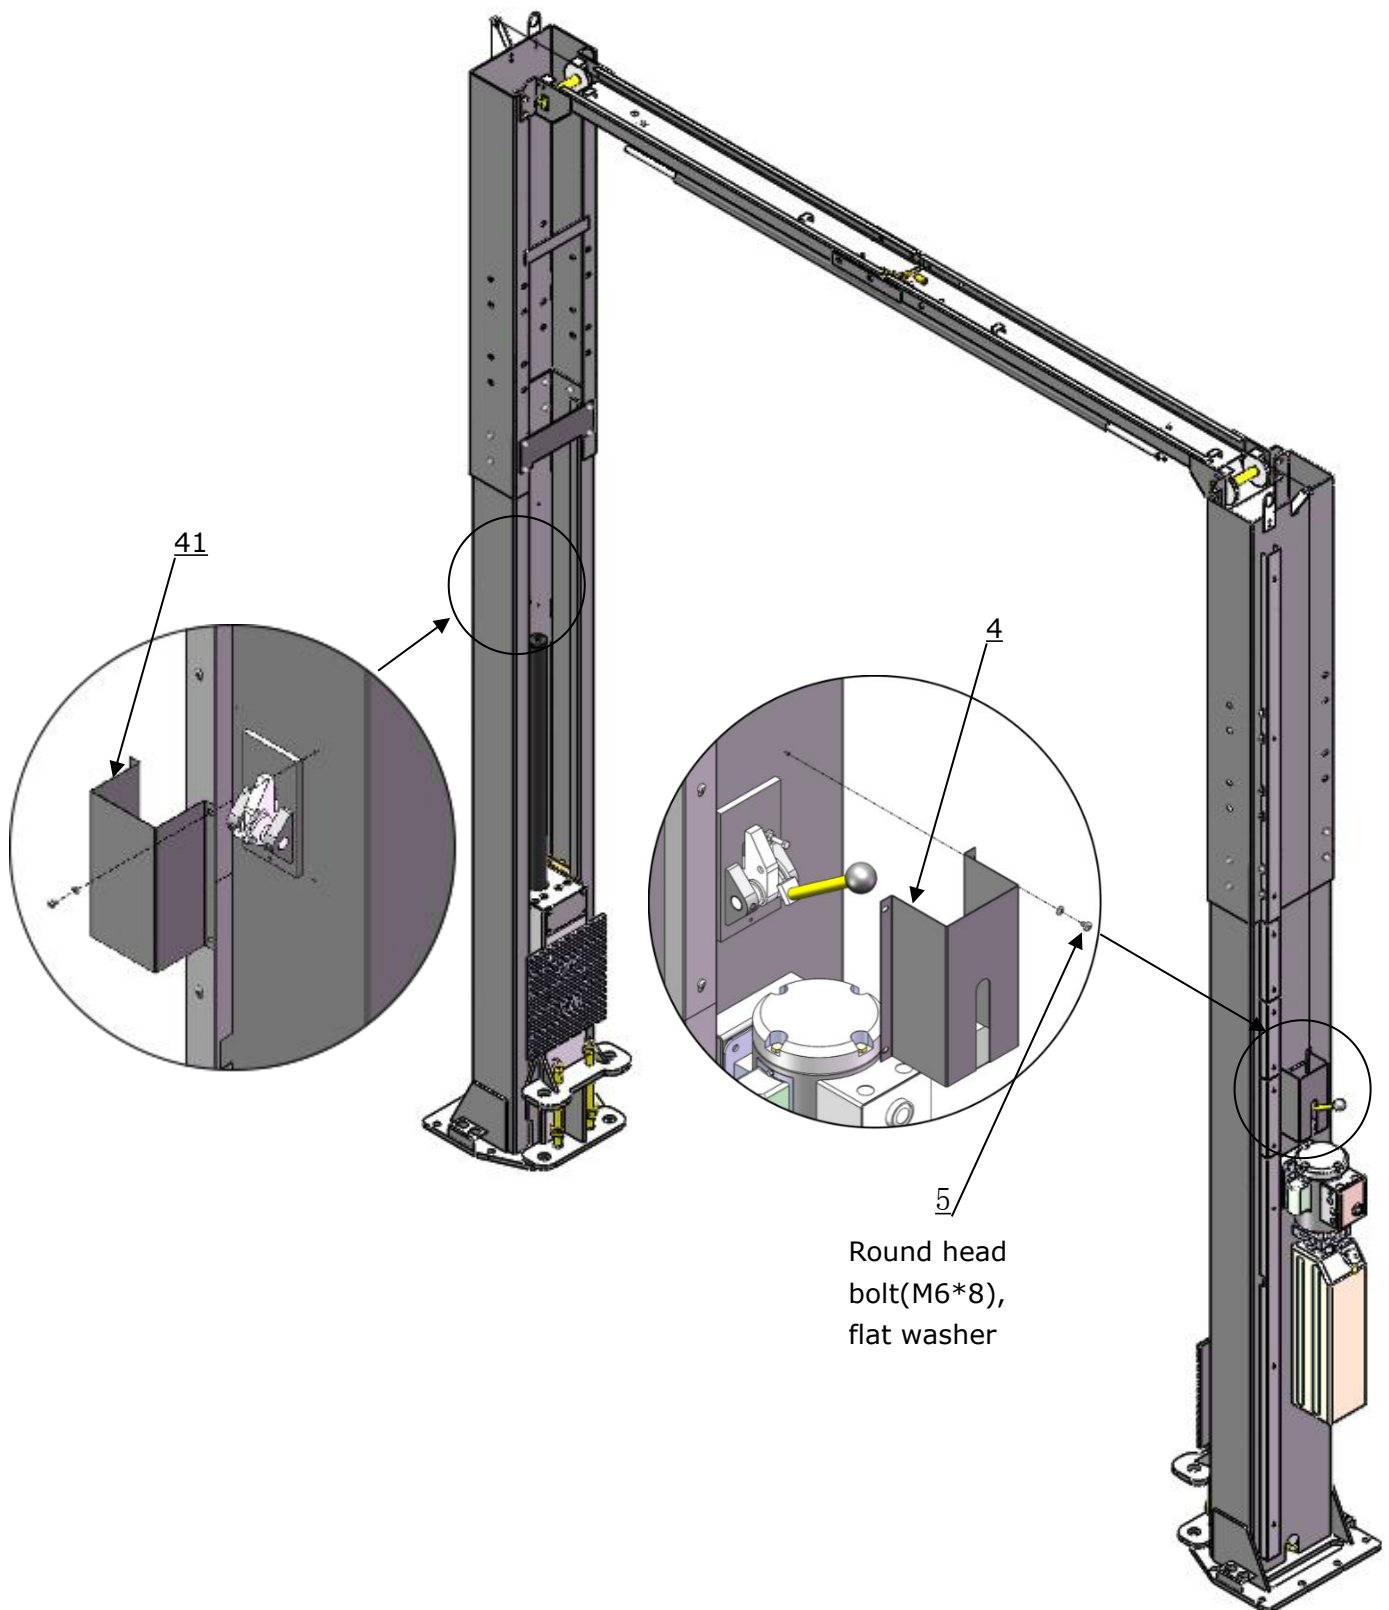

Fig.38
P. Install safety device cover (See Fig. 38)